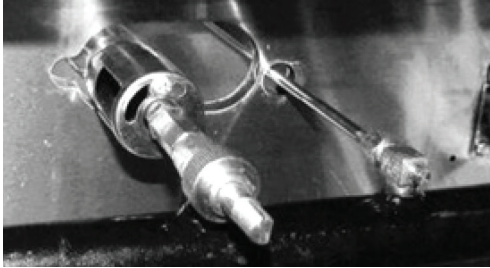

Fig.4
- Unscrew bolts and pilot valve, then remove the manifold (Fig.4).